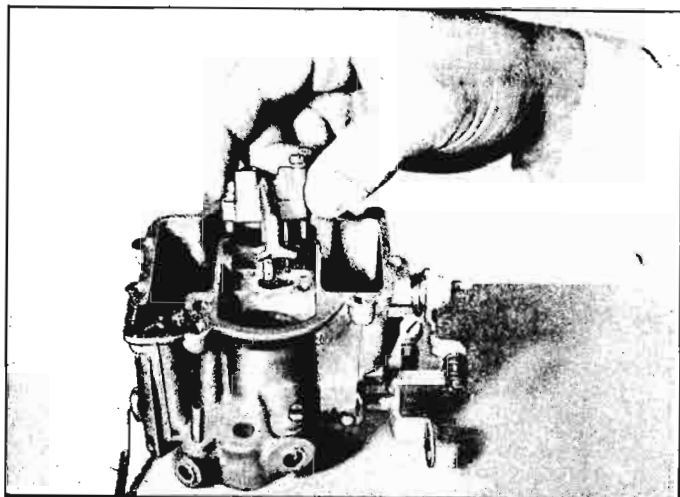

Fig. 9-22—Removing Venturi Cluster
8. Remove the two screws and lockwashers attaching venturi cluster to the bowl assembly and lift out the cluster, gasket and main well insert, (fig. 9-22).